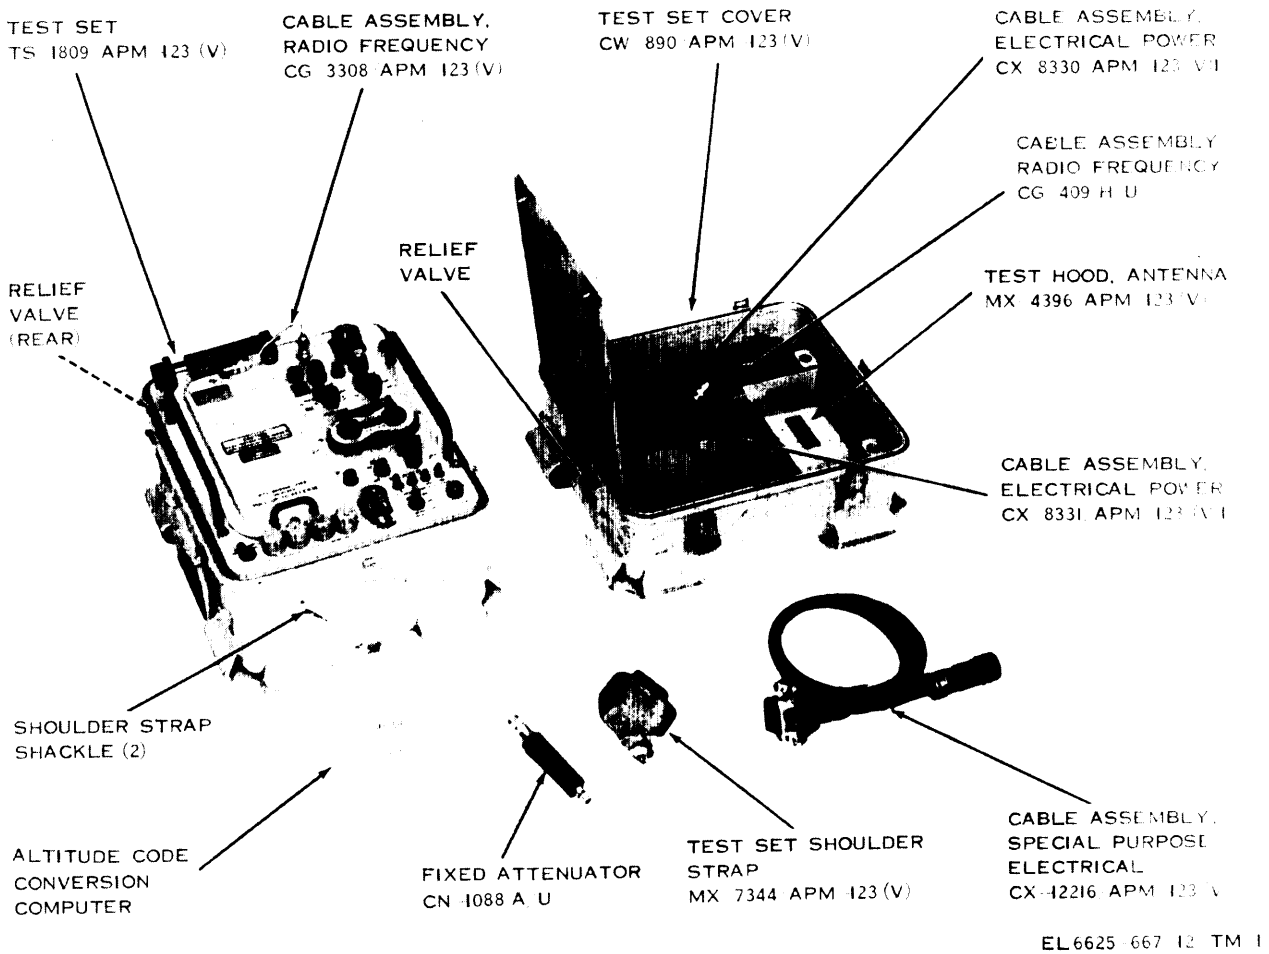

Figure 1-1. Test Set, Transponder AN/APM-123(V)1 (power cable for AN/APM-123(V)2 and 3 not shown).
a. This manual describes Test Sets, Transponder AN/PAM-123(V)1, 2 and 3 (test set) (fig. 1-1) and covers their operation and organizational maintenance. It includes instructions for operation, inspection and preventive maintenance of the test set. Also included in this manual is a maintenance allocation chart (App B.)